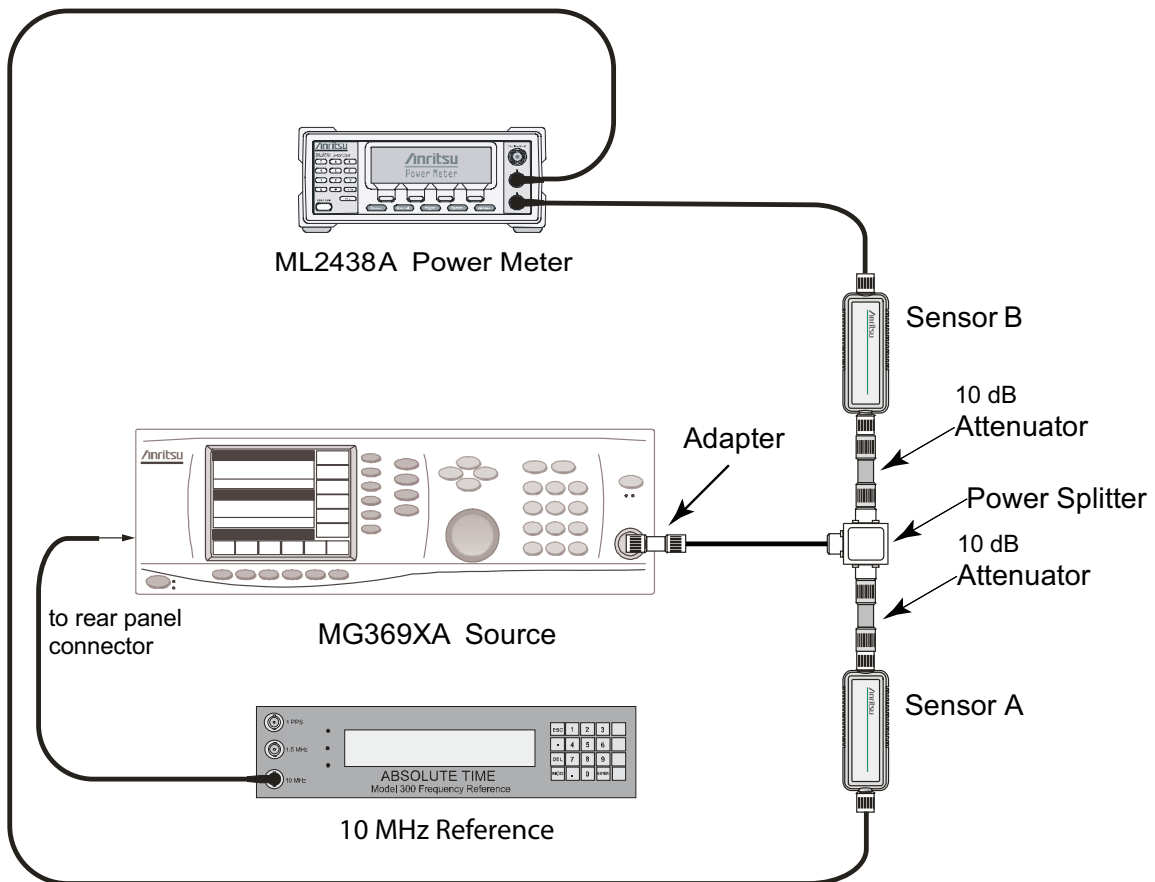

Figure 2-7. Test Setup for Power Adjustment
1. Connect the equipment as shown in Figure 2-7. Ensure that the voltmeter (DVM) is set to read AC volt.